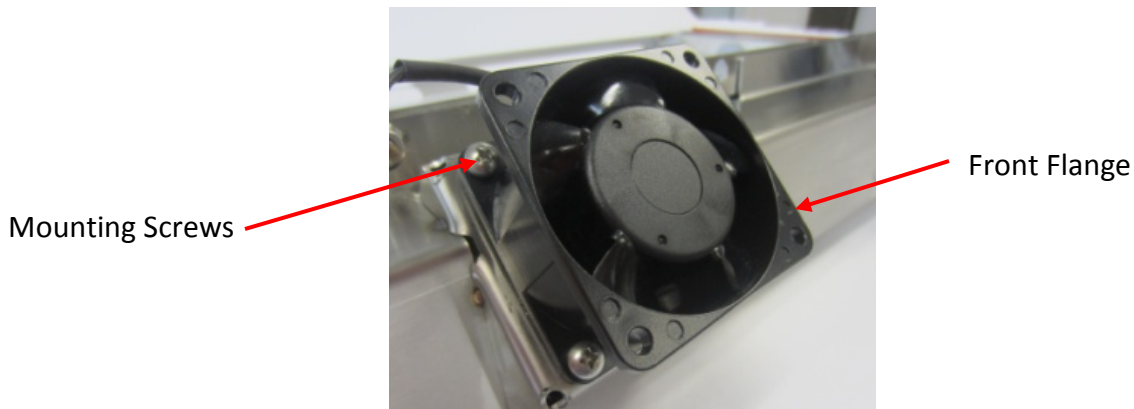

Figure 6-35-1
9. Sliding a small screwdriver through the front flange, remove the four fan mounting screws (Refer to Figure 6-35-1).